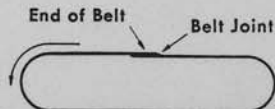

Fig. 4. Direction of rotation of sanding belt. The end of the belt must trail.
- ★ Be sure sanding belt is mounted properly — arrow on belt indicates direction of rotation. For rotation of belts not marked, see Figure 4.